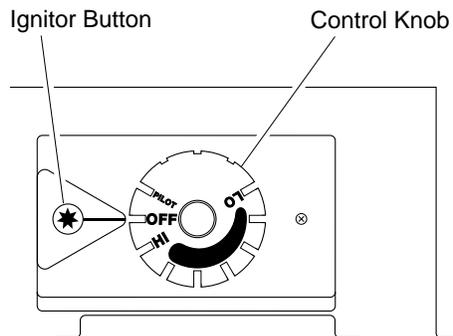

Figure 28 - Control Knob In The OFF Position
4. Wait five (5) minutes to clear out any gas. Then smell for gas, including near the floor. If you smell gas, STOP! Follow "B" in the safety information. If you don't smell gas, go to the next step.
5. Turn control knob counterclockwise to the PILOT position. Press in control knob for five (5) seconds (see Figure 28).